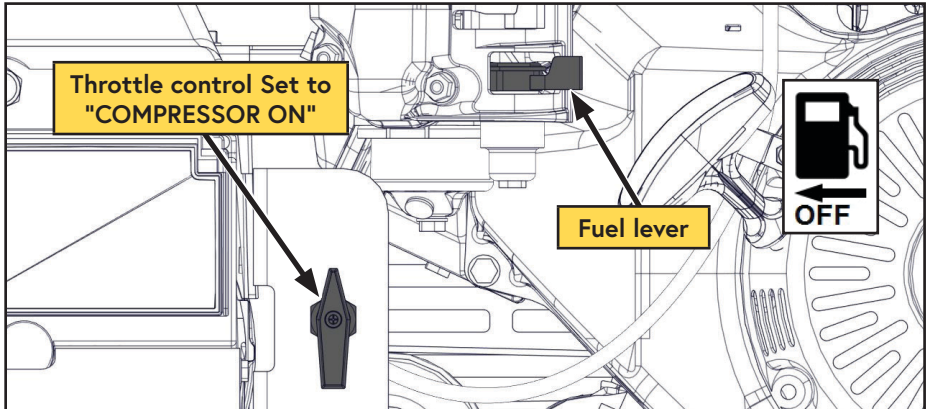

Figure 27 — Shut off fuel
- 7) Move the fuel shut off valve all the way to the left to shut off the fuel (Figure 27).